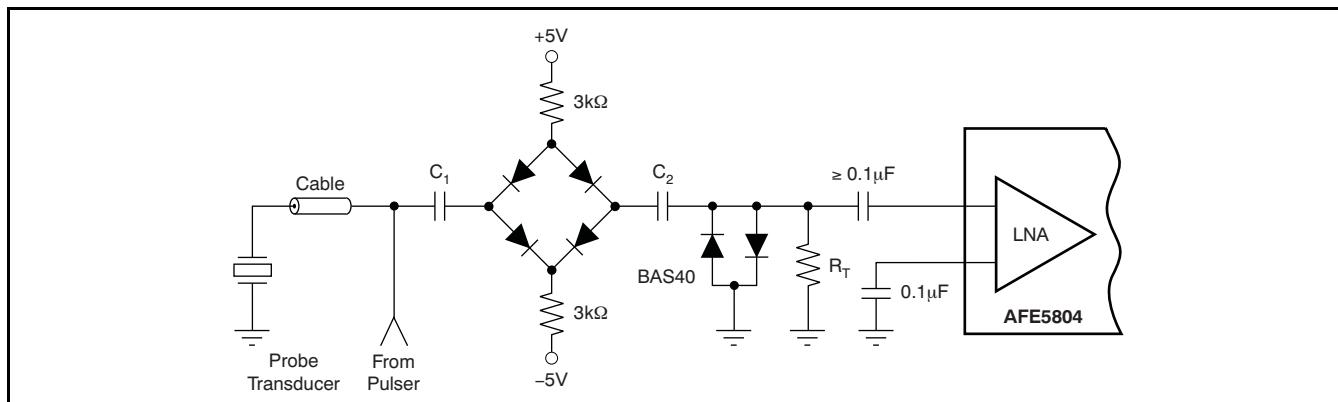

Figure 102. Typical Input Overload Protection Circuit of an Ultrasound System
The AFE5804 is designed in particular for ultrasound applications where the front-end device is required to recover very quickly from an overload condition. Such an overload can either be the result of a transmit pulse feedthrough or a strong echo, which can cause overload of the LNA, PGA, and ADC. As discussed earlier, the LNA inputs are internally protected by a pair of back-to-back diodes to prevent severe overload of the LNA. Figure 102 illustrates an ultrasound receive channel front-end that includes typical external overload protection elements. Here, four high-voltage switching diodes are configured in a bridge configuration and form the transmit/receive (T/R) switch. During the transmit period, high voltage pulses from the pulser are applied to the transducer elements and the T/R switch isolates the sensitive LNA input from being damaged by the high voltage signal. However, it is common that fast transients up to several volts leak through the T/R switch and potentially overload the receiver. Therefore, an additional pair of clamping diodes is placed between the T/R switch and the LNA input. In order to clamp the over-voltage to small levels, Schottky diodes (such as the BAS40 series by Infineon®) are commonly used. For example, clamping to levels of
As Figure 102 shows, the front-end circuitry should be capacitively coupled to the LNA signal input (IN). This coupling ensures that the LNA input bias voltage of $+2.4V$ is maintained and decoupled from any other biasing voltage before the LNA.
Within the AFE5804, overload can occur in either the LNA or the PGA. LNA overload can occur as the result of T/R switch feedthrough; and the PGA can be driven into an overload condition by a strong echo in the near-field while the signal gain is high. In any case, the AFE5804 is optimized for very short recovery times, as shown in Figure 102.